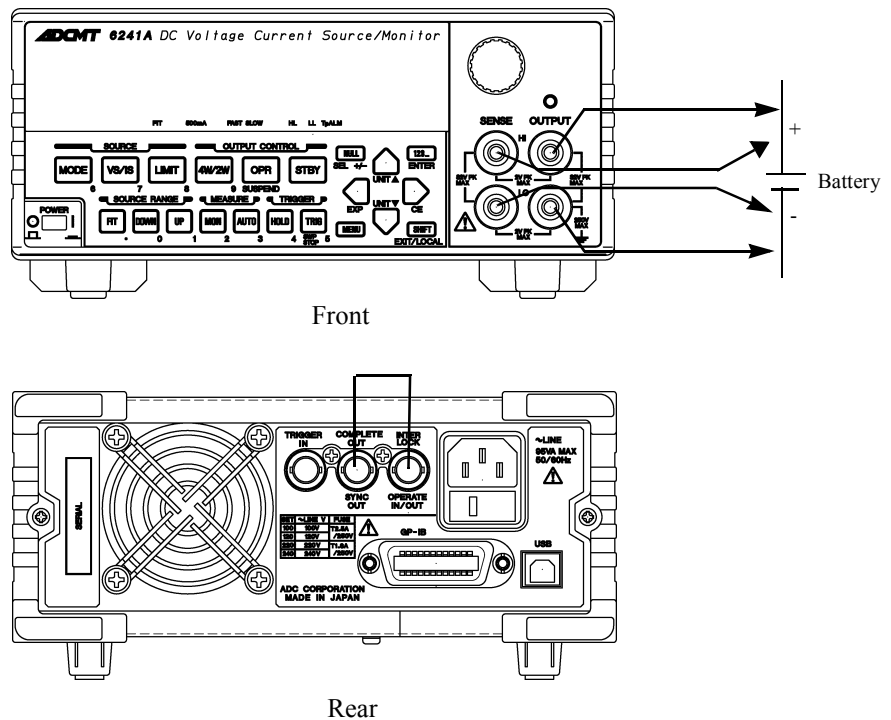

Figure 3-3 Battery Charge Discharge Test Connection
1. Use a 4-wire connection as shown in Figure 3-3 so that the cable does not cause a voltage drop.